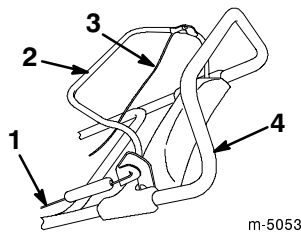

Figure 2
1. Cut the tie that secures the rotor control cable (Fig. 2) to the handle.
7. Ensure that the rotor control cable and the traction drive cable are properly adjusted (Fig. 2). Refer to *Adjusting the Rotor Control Cable* on page 11, and to *Adjusting the Traction Drive Cable* on page 12.